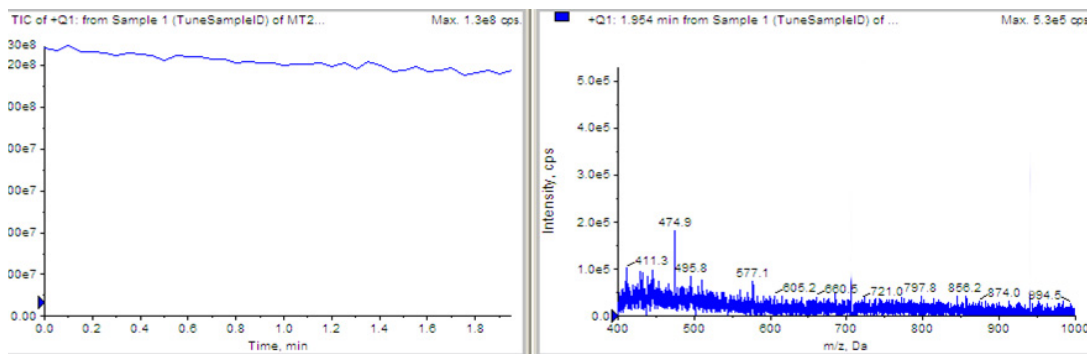

Figure 2-23 Q1 MS scan for background noise
- Stable spray appears as shown in Figure 2-23.